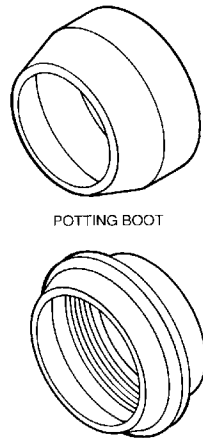

Figure 10. Potting Boot and Potting Boot Ring
15. **Potting Boots and Potting Boot Rings.** Potting boots are forms placed around the wire terminations of the connectors to contain liquid potting compound while hardening. Potting boot rings are threaded rings used as intermediate devices between the connector and the potting boot. A lip, on the opposite end of the threads, provides a means for the boot to grip the ring (Figure 10).